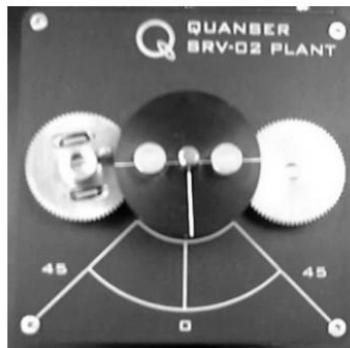

Figure 1: Motor with its inertial disk.
4. Remember that you have to put the motor in the low gear ratio, with its inertia in the top, as you can see in Figure 1.